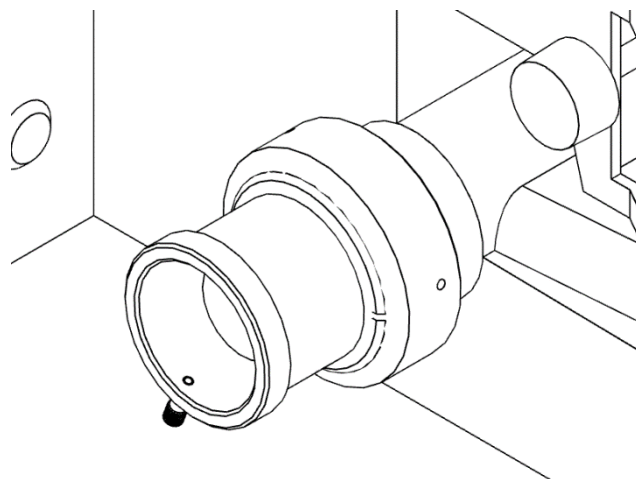

Fig. 4
- 5) While holding the focus adapter in place, firmly tighten the grub screws in sequence to secure the unit onto the coarse focus knob. The focus knob will have to be rotated to gain access to all of the screws. An attached focus adapter is displayed in Figure 4.